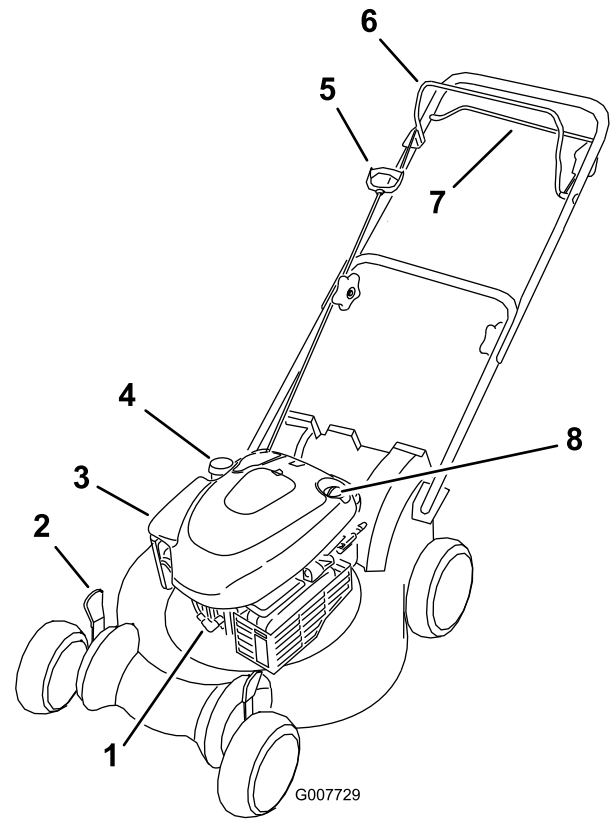

**Figure 10**
2. Squeeze the button on the lever with your thumb, and fully insert the mulch plug into the opening (Figure 10).